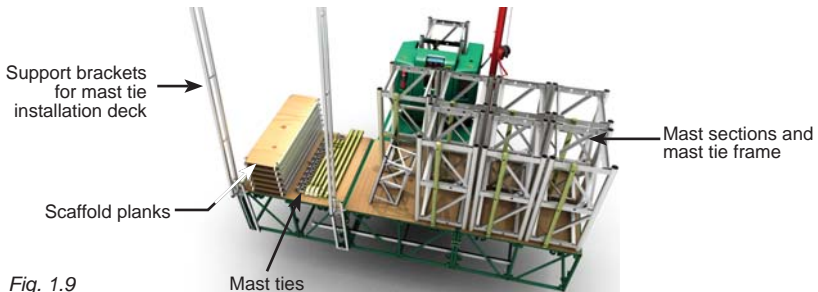

Fig. 1.9
- 30- Load seven mast sections, one mast tie frame and mast ties for one tie level (fig. 1.9). Repeat steps 25, 26 and 27 to install all **seven mast sections and the tie level at 35' (11 m)**.